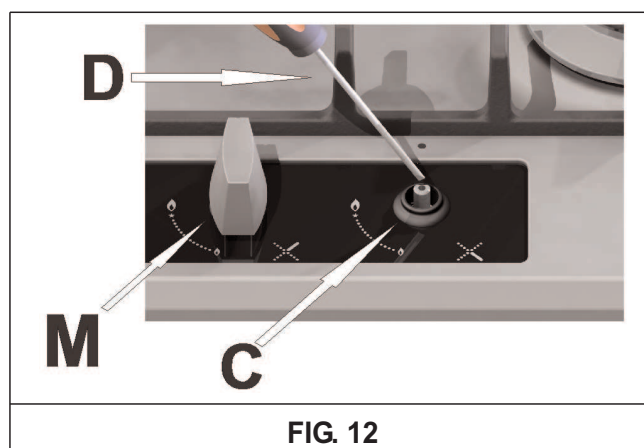

FIG. 12
- Remove knob (fig. 12) of the tap, which is simply pressed on to its rod.
- Insert a small screwdriver “D” into hole “C” (fig. 12) and turn the throttle screw to the right or left until the burner flame has been adequately regulated to the “Reduced rate” position.